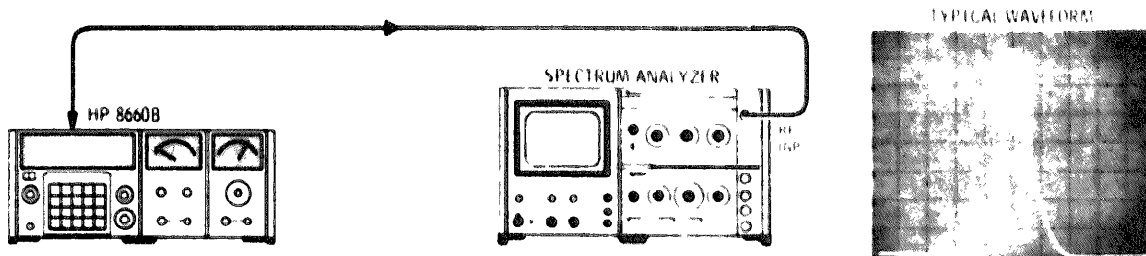

Figure 5-5. RF Level Checks Test Setup
d. Connect the Spectrum Analyzer RF INPUT to the 100 MHz output of the A4A4 assembly and tune the Spectrum Analyzer CENTER FREQUENCY to 100 MHz. The 100 MHz signal should be  $> +10$  dBm (see Figure 5-5).
a. Connect the Spectrum Analyzer RF INPUT to the 500 MHz output connector on the A4A4 assembly and tune the analyzer to 500 MHz. Set the analyzer scan width to 50 MHz per division and other analyzer controls for a clear display (see Figure 5-5)